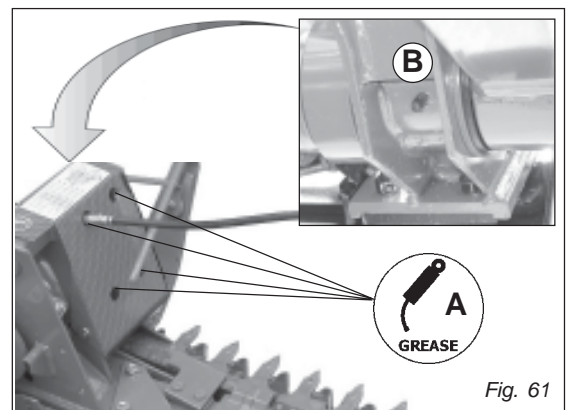

Fig. 61
- Grease points (A and B, Fig. 61).
- Grease point (A and B, Fig. 61).